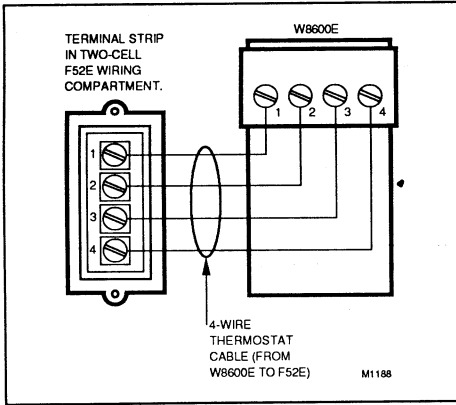

Fig. 4—Wiring the W8600E to the F52E Electronic Air Cleaner's power box terminal strip (two-cell model).
- Strip 1/4 in. of insulation from the ends of the wires and connect them, matching numbers (1 to 1, 2 to 2, 3 to 3, 4 to 4) as shown in Fig. 4.